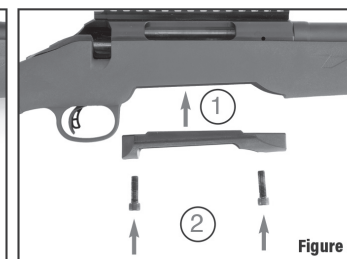

Figure 6
4. Replace the current magazine well with the magazine well insert included with your Ruger® One-Shot sled. Reinstall the two socket head cap screws into the corresponding holes and tighten into the rifle action. (See Figure 6) Torque the screws to 40-50 in-lbs.